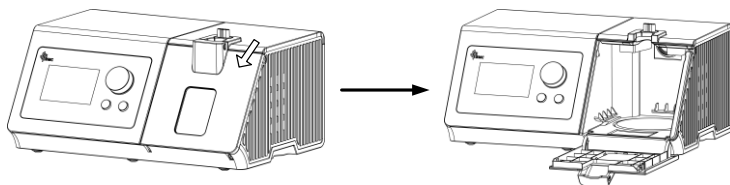

Fig. 11-7
(2) **Open the cover of water chamber:** Open the cover of water chamber along the direction shown in the Fig. 11-7.